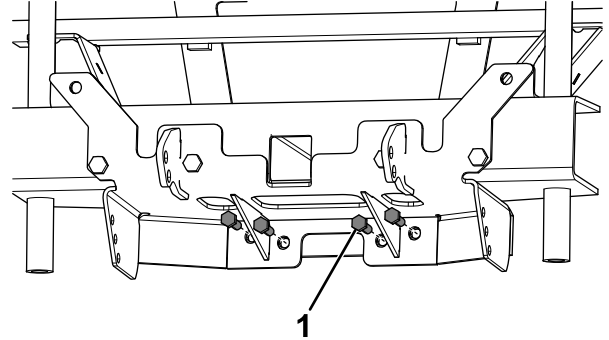

Figure 6
9. Loosely attach the plow skid plate to the front axle skid pan using 4 bolts (M12 x 30 mm) as shown in Figure 6.